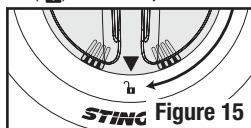

Figure 15
1. To Remove Bug Basket. Turn Bug Basket handle clockwise ↻ so the arrow (▲) on the Bug Basket aligns with the “Unlocked” symbol (🔓) on the top of the Vacuum Head **(Figure 15)**. (The Bug Basket is designed to twist close so that no live mosquitoes can escape when the Bug Basket is removed). Pull straight up. CHECK BUG BASKET (🧺) indicator will light RED while Bug Basket is removed.